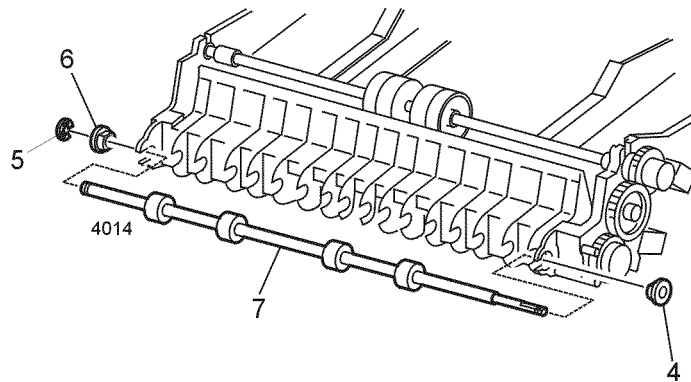

Figure 1 Tray 1 Turn Roll Assembly
5. Remove the E-Ring from the right end of the Turn Roll Assembly (Figure 1).
6. Remove the bearing from the right end of the Turn Roll Assembly Shaft (Figure 1).
7. Remove the Turn Roll Assembly (Figure 1).